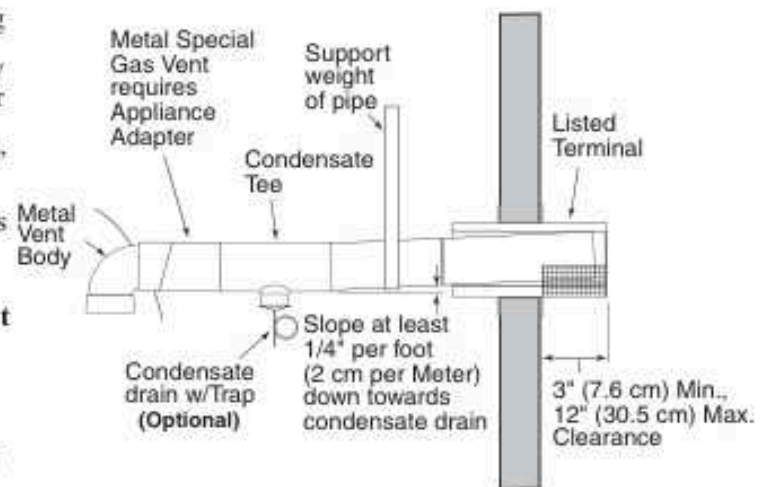

Figure 22.
- at least 3" and at most 12" out from the wall (see Figure 22), following the vent manufacturer's instructions